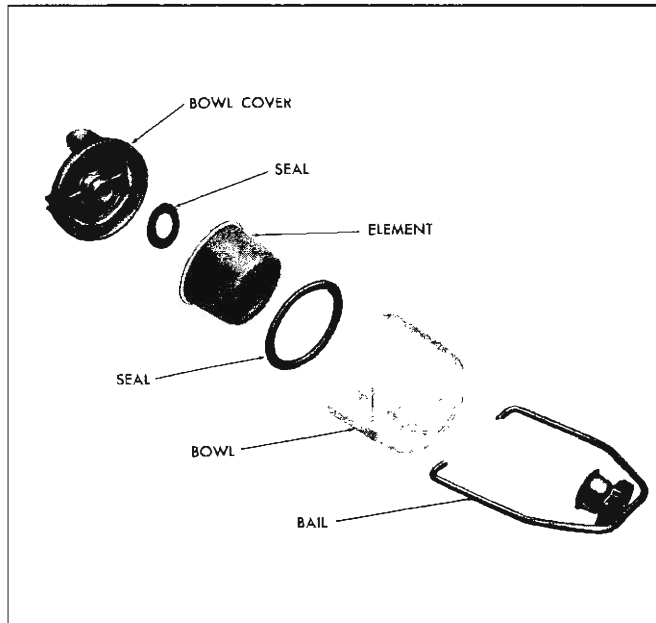

Fig. 13—Fuel Filter Assembly
1. Loosen bail nut then remove glass bowl and paper filter element (fig. 13).